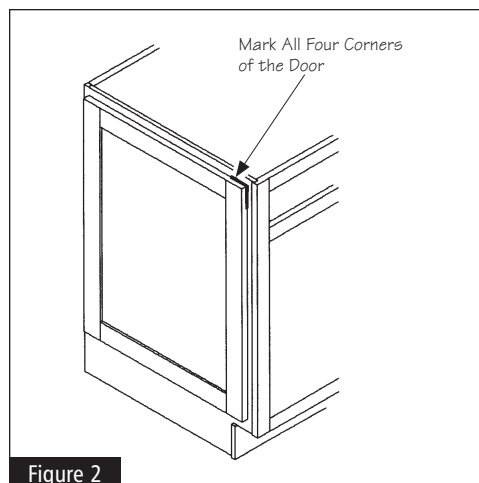

Figure 2
**2** Position the Door End Panel into the desired location. With a pencil, mark all four corners of the door onto the side of the cabinet. See Figure 2.